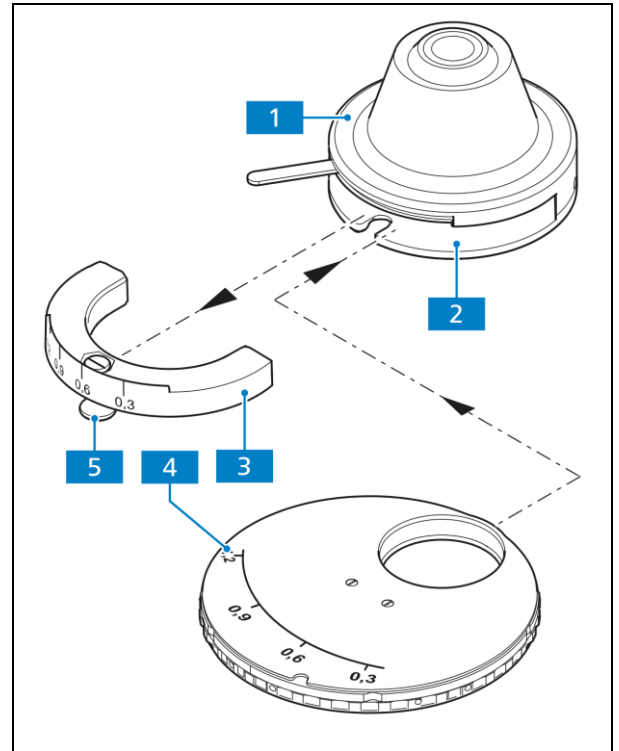

Fig. 3-30 Modulator disk in condenser 0.9 H Pol
- Remove the condenser (Fig. 3-30/1) from the condenser carrier (see section 3.1.8).
- Loosen the clamping screw (Fig. 3-30/5) of the condenser's dial segment (Fig. 3-30/3) with the Allen wrench (AF 3) and pull out the dial segment.
- Slide the modulator disk (Fig. 3-30/4) with its two-pronged forked opening pointing forward into the condenser opening (Fig. 3-30/2). Make sure that the disk engages in the guide on both inner sides of the condenser. The guide serves as a stop for the modulator disk. The pin of the disk's clamping screw must slide into the orientation groove of the condenser.